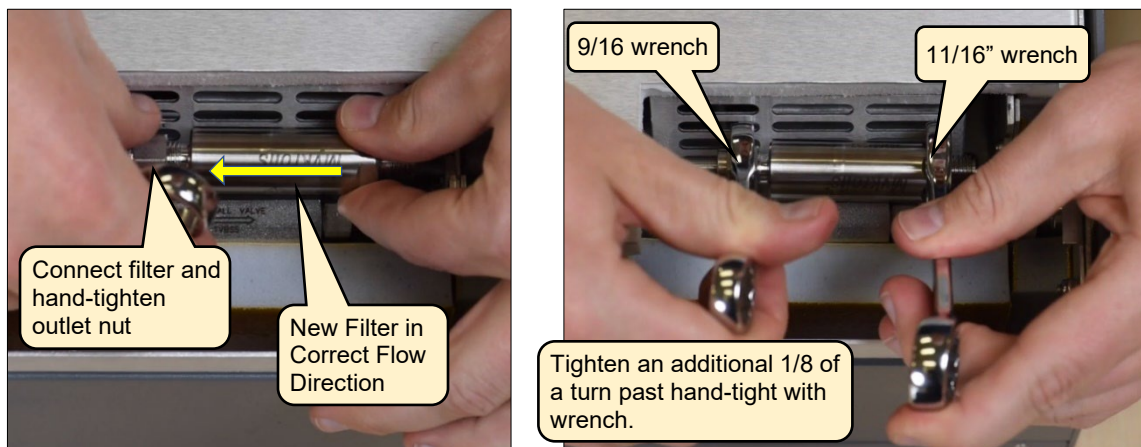

Figure 10: Connect New Filter to Outlet Swagelok Fitting and Tighten
1. Place an absorbent cloth or paper in the area that will be occupied by the filter and fittings. This will be used to absorb fluid during the leak test performed after installation of the new filter. See Figure 10 for cloth positioning.
1. With the instrument still turned off, and absorbent cloth or paper under all relevant fittings, connect a tank of dry gas to the analyzer inlet and set the pressure to 2-3 PSIG (Figure 10).